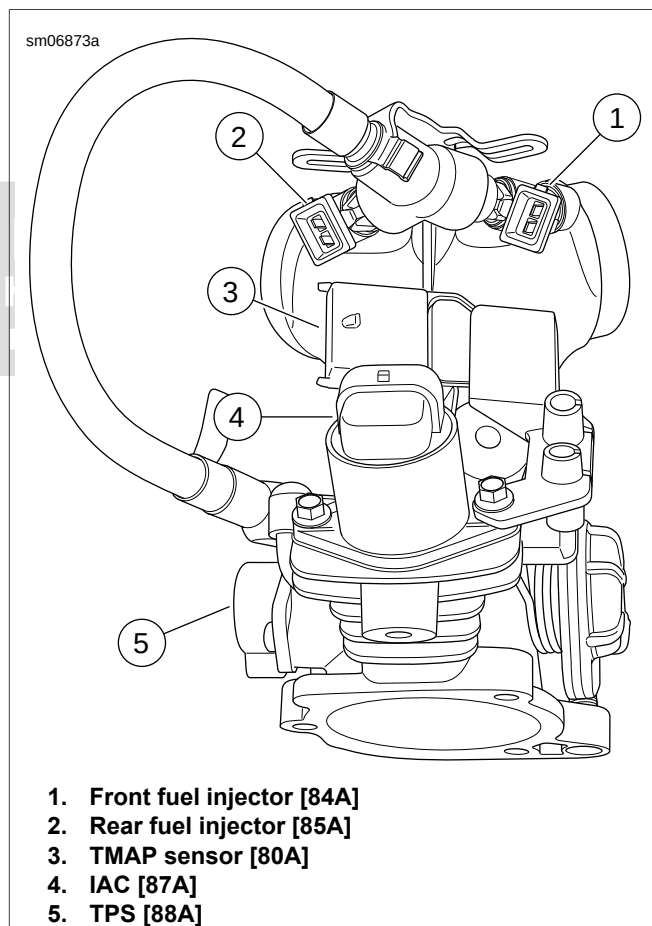

Figure 4-42. Induction Module Electrical Connectors
16. See Figure 4-42. Plug in the following connectors:
- a. Front fuel injector (1) connector [84],
- b. Rear fuel injector (2) connector [85],
- c. TMAP sensor (3) connector [80],
- d. IAC (4) connector [87],
- e. TPS (5) connector [88].